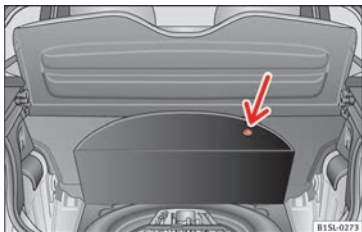

Fig. 77 In the luggage compartment: Raised carpet.
The vehicle tool kit, spare wheel, temporary spare wheel and the tyre mobility set are stored in the luggage compartment under the carpeted floor panel » **Fig. 77**.
- Raise the carpet at the recess (arrow) » **Fig. 77**.